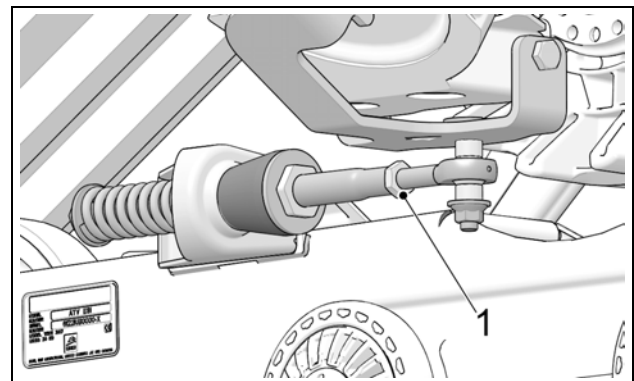

Figure 16
- Re-tighten jam nut (1) to 40 N•m [30 lb-ft] of torque when adjustment is complete. Figure 16.